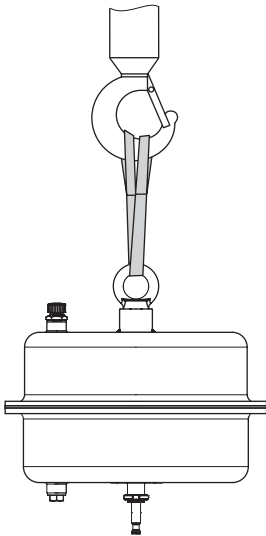

Fig. 3: Lifting point on the actuator
1. Attach a sling to the lifting eyelet, eyebolt or swivel lifting hook of the actuator and to the rigging equipment (e.g. hook) of the crane or forklift (see Fig. 3).
We recommend using a hook with safety latch (see Fig. 3). The safety latch prevents the slings from slipping during lifting and transporting.